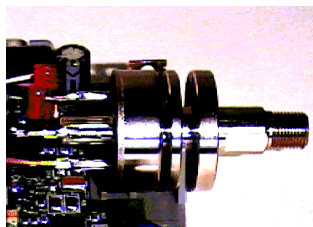

Figure B-4 Sensor in its Cradle
7. Put the new sensor into the cradle. Be sure to locate the tube and wires as shown in Figure B-4.